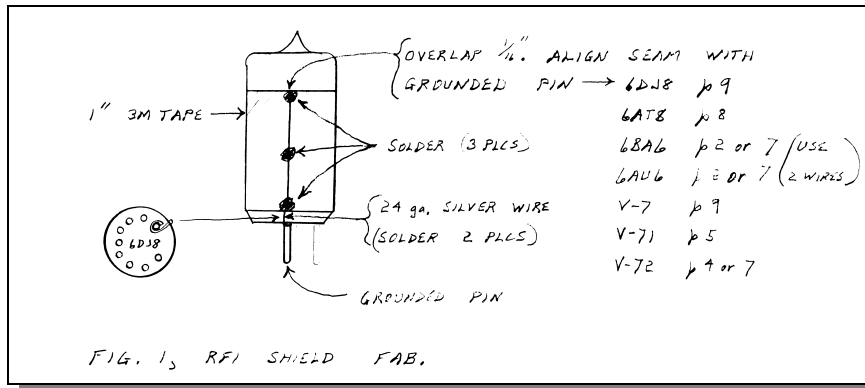

FIG. 1, RFI SHIELD FAB.
- 4 Wipe one layer of 1 3M foil shielding tape around tube and solder the seam in several places. Connect shield to the appropriate pin with 24 ga. wire wrap wire, see figure 1. The RFI tape (Digi-Key 3M1181C) is pretty pricey but will be a lifetime supply for most experimenters. I use tons of it for ground planes, power busses, shielding, etc. The stuff is severely addictive.